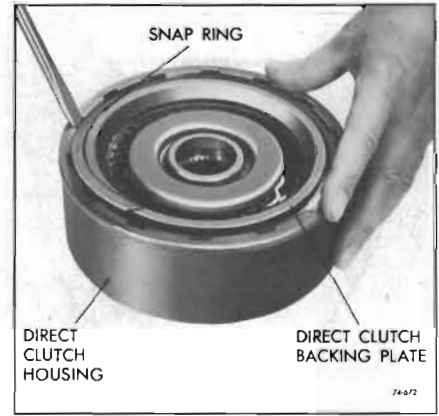

Figure 74-672
3. Turn unit over and remove backing plate to clutch housing snap ring. See Figure 74-672.